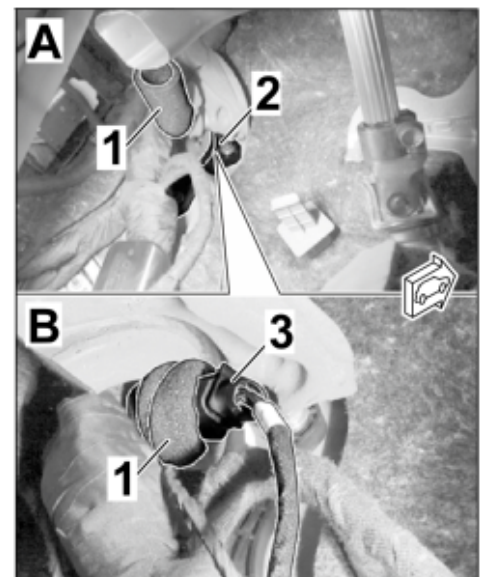

Figure 13
- 3.1.1** Expose the connection point (preparation = socket connector, 6-pin) in the passenger compartment of the vehicle, area of bulkhead grommet, A-pillar left. ⇒ *Figure 13 -A-*
- 3.1.3** Establish a connection between the plug connection preparation and the wire harness for the exhaust flaps (6-pin). ⇒ *Figure 13 -B-*